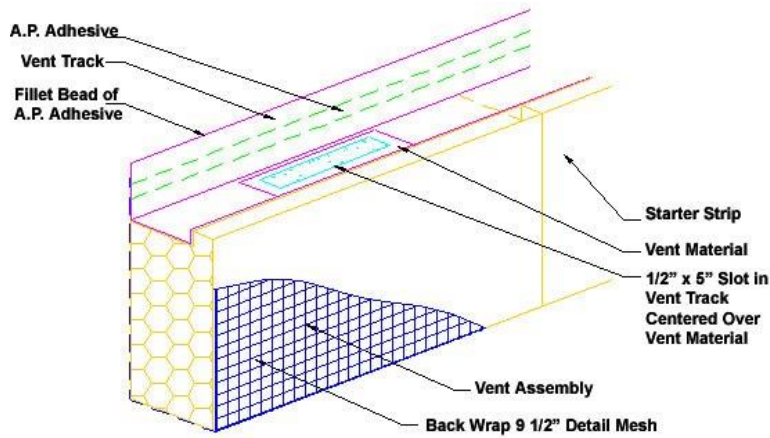

Fig. 10
7. Install the Dryvit Vent Track and Dryvit Track by applying a continuous horizontal bead of Dryvit's TREMGrip on the wall side of the vertical nailing flange of the track and position over the Dryvit Starter Strip. When installing the Dryvit Vent Track the cut out (slot) must be located directly above the Dryvit Vent Assembly – Figure 10. Press firmly against the substrate to ensure firm and continuous contact between the adhesive and the wall surface. NOTE: It is recommended that the surface of the Drainage Track and Vent Track be lightly sanded to improve adhesion of the Dymonic 100.